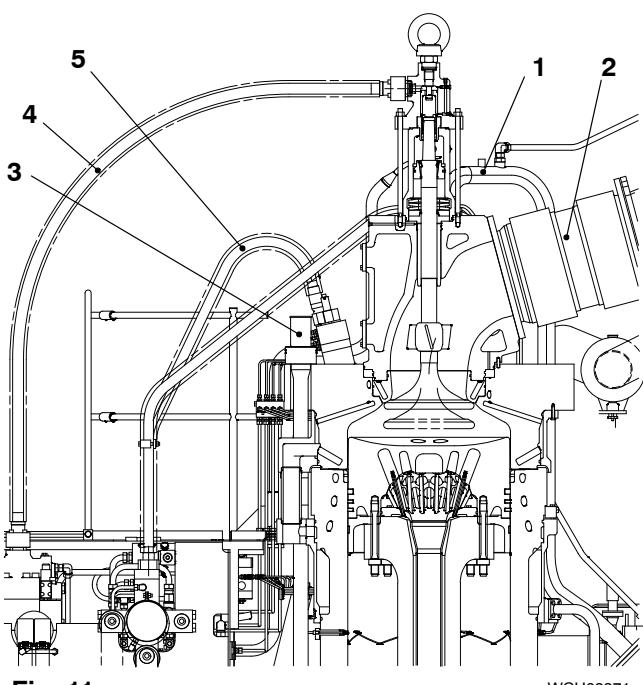

Fig. 11
- 8) Lift the cylinder cover (5) in accordance with paragraph 3 and clean the lower seating face.
- 9) Bring the cylinder cover (5) in position over the cylinder liner (1) that the transition tube (2) is in line with the same bore of the water guide jacket (4).
- 10) Carefully lower the cylinder cover (5) and guide the transition tube (2) into the water guide jacket (4).
- 11) Clean the threads of the elastic studs (3, Fig.11) and apply oil to them.
- 12) Tension the elastic studs (3), refer to paragraph 2.
- 13) Install the hydraulic pipe (4) for exhaust valve drive, refer to: 8460-1.
- 14) Install the three HP fuel pipes (5), refer to 8733-1.
- 15) Connect the cooling pipe (1).
- 16) Install the expansion piece (2) with round slings, refer to 2751-1.